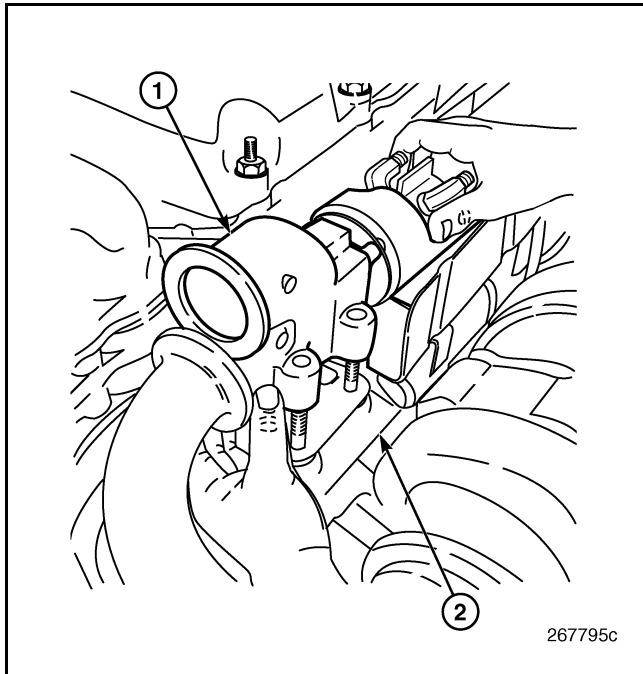

Figure 503 — EGR Valve Installation
4. Place the valve assembly in position on the exhaust manifold studs (Figure 503). Loosely install the retaining nuts. **DO NOT** tighten them at this time. This allows the EGR valve to “float” into the best alignment position.